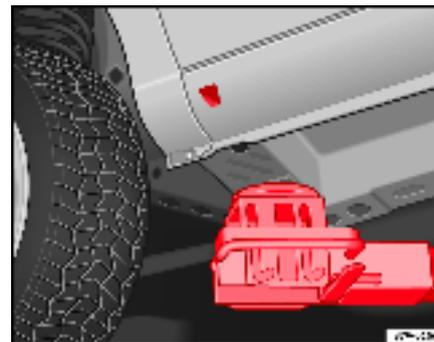
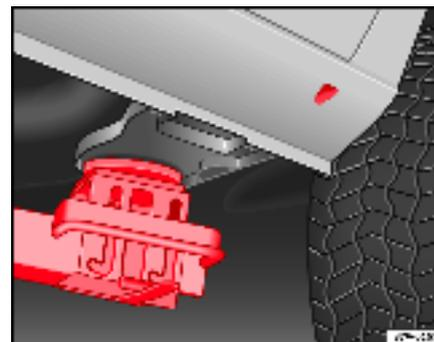

Fig. 174 Lifting with the lifting platform: lifting point at front left
Fig. 175 Lifting with the lifting platform: lifting point at rear left
Your vehicle may only be lifted by a lifting platform at the points shown in the illustrations ⇒ page 255, fig. 174 and ⇒ page 255, fig. 175 ⇒ .
- The vehicle must only be lifted at the points indicated in the diagrams ⇒ page 255, fig. 174 and ⇒ page 255, fig. 175. If the vehicle is not lifted at the indicated points, it may fall from the platform while the engine or gearbox is being dismantled, for example.